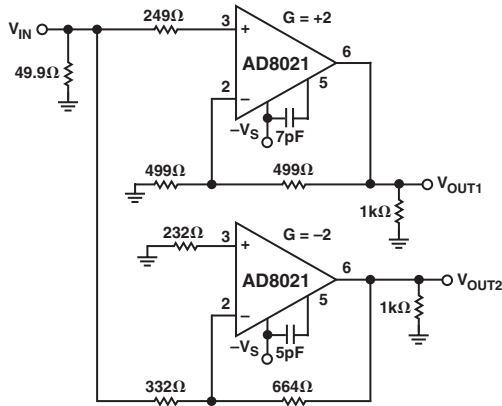
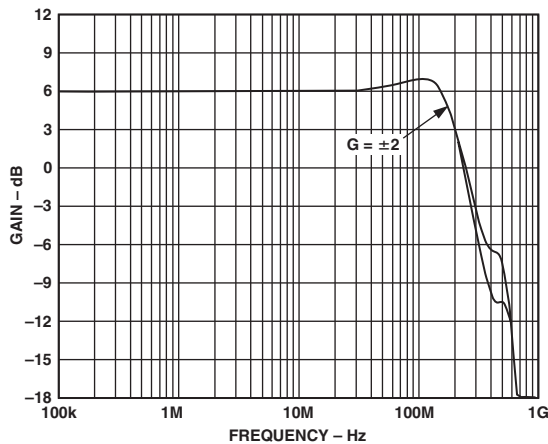

Figure 10. Differential Amplifier
Figure 12. AC Response of Two Dissimilarly Compensated AD8021 Op Amps (Figure 11) Configured for Gains of +2 and -2. Note the Close Gain Match.
3. Match bandwidth in gain blocks with different noise gains, such as when designing differential amplifiers (as shown in Figure 10).
Figure 10 illustrates an inverter-follower driver circuit operating at a gain of 2, using individually compensated AD8021s. The values of feedback and load resistors were selected to provide a total load of less than 1 k Ω , and the equivalent resistances seen at each op amp's inputs were matched to minimize offset voltage and drift. Figure 12 is a plot of the resulting ac responses of driver halves.